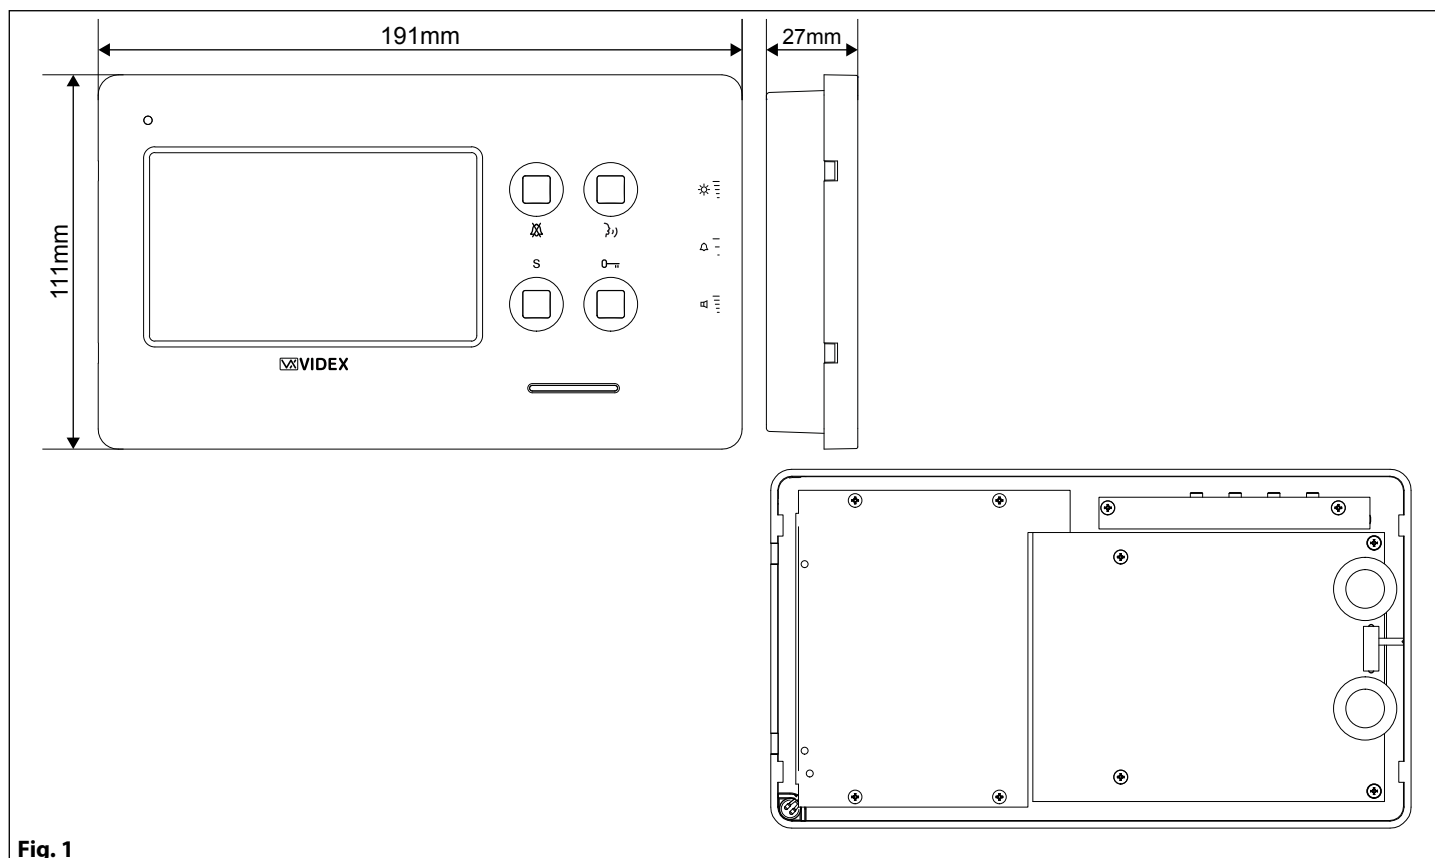

Fig. 1
1. Place the surface box against the wall (165-170cm between the top of the box and the floor level as shown in **Fig. 1**) and mark the fixing holes for the wall plugs and the hole for the cables **E (fig. 2)**. Observe the orientation of the box with the hinge on the left;
1. Protect the module support frame fixing holes from dust then embed the back box into the wall (165-170cm between the top of the box and the floor level as shown on the **Fig. 1**) feeding the cables **E (Fig. 2)** through a previously opened hole in the box. Observe the direction of the box ensuring the hinge is on the left and take care that the box profile is in line with the finished wall profile;
PUSH BUTTONS (FIG. 1)
LEDs (FIG. 1)